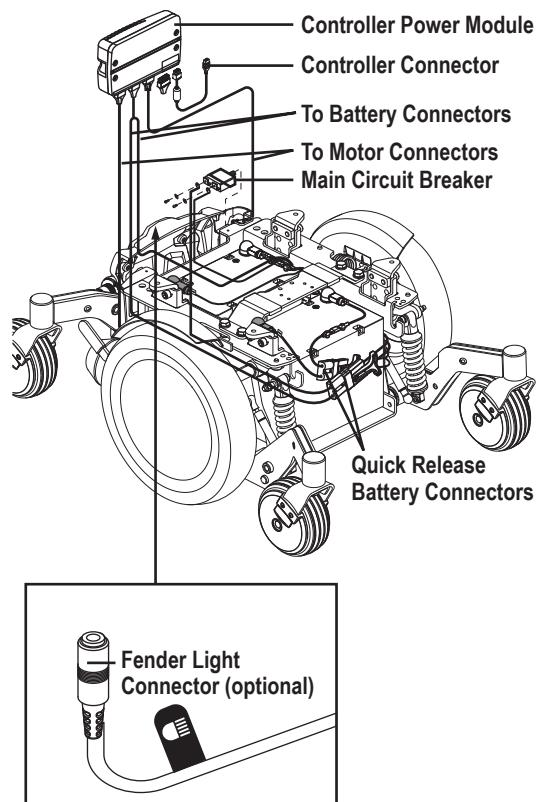

Figure 1. Electrical Components
Your power chair has two main assemblies: the seat assembly and the power base assembly. Typically, the seat assembly includes the armrests, seatback, and seat base. The power base assembly includes two motor/brake assemblies, two drive wheels, four caster wheels, two batteries, and wiring harnesses. **See Q6 Edge 2.0/2.0x/3/2.0HD/Q4 2 (page 4) and figure 1.**
The electrical components consist of the controller assembly, the batteries, and the motors. The batteries, motors, and controller power module (if equipped) are located on the power base assembly. The controller is located on the seat assembly. Connectivity between the controller and the motors, batteries, and the battery charger is provided by one or more wiring harnesses. **See figure 1.**
5. Plug the controller connector into the rear of the power base. **See figure 1.**